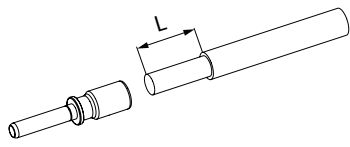

Fig. 1:
1. Strip cables for the main contacts - depending on the series and wire cross-section - to length L as indicated in the table below (Fig. 1).